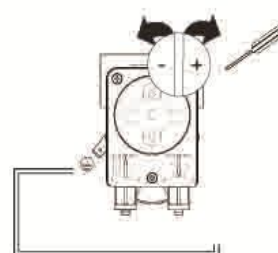

Fig.11
- 2- Open up until reached necessary quantity by screwing clockwise the needle valve of the dispenser. (Fig.11)